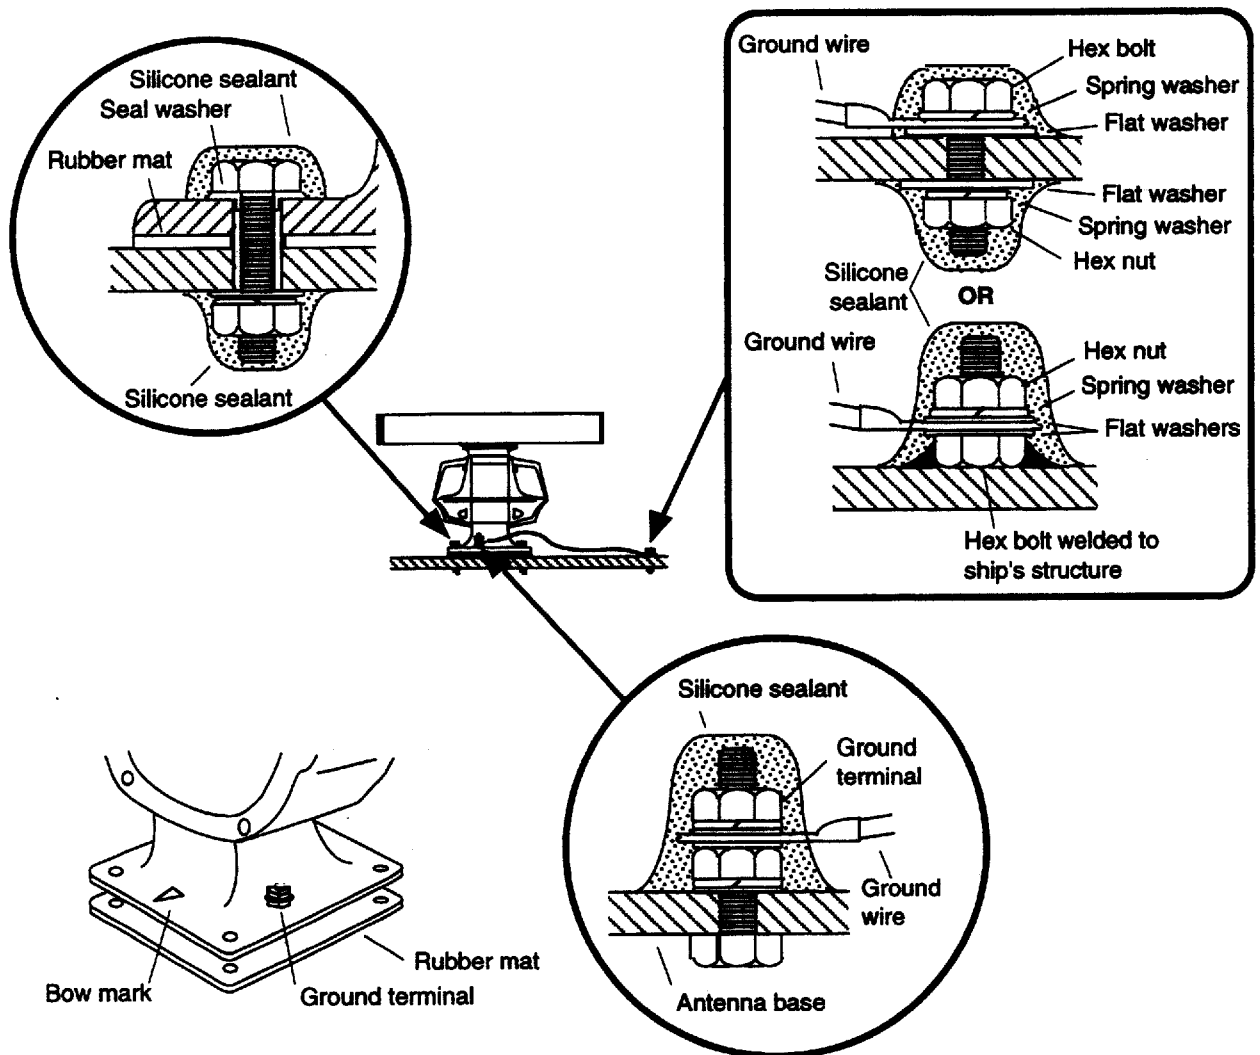

Figure 3 How to mount the scanner unit
- 6) Coat ground terminal and ground point with silicone sealant as shown in Figure 3.